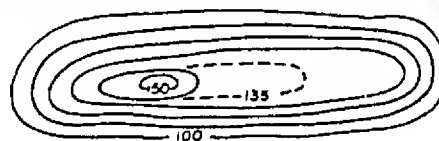

Figure 277-B Supplementary Contour
3. Supplementary Contours portray relief in more detail, particularly in a relatively flat area. These are broken brown lines that are normally placed at one-half the contour interval from the adjacent contours, are usually labeled with their respective altitudes, and are extended only as far as necessary to properly depict the relief of an area. The supplementary contour, for this reason, does not usually close on itself. Supplementary contour interval is normally given in the marginal information of the map sheet. Figure 277-B depicts a supplementary contour line.